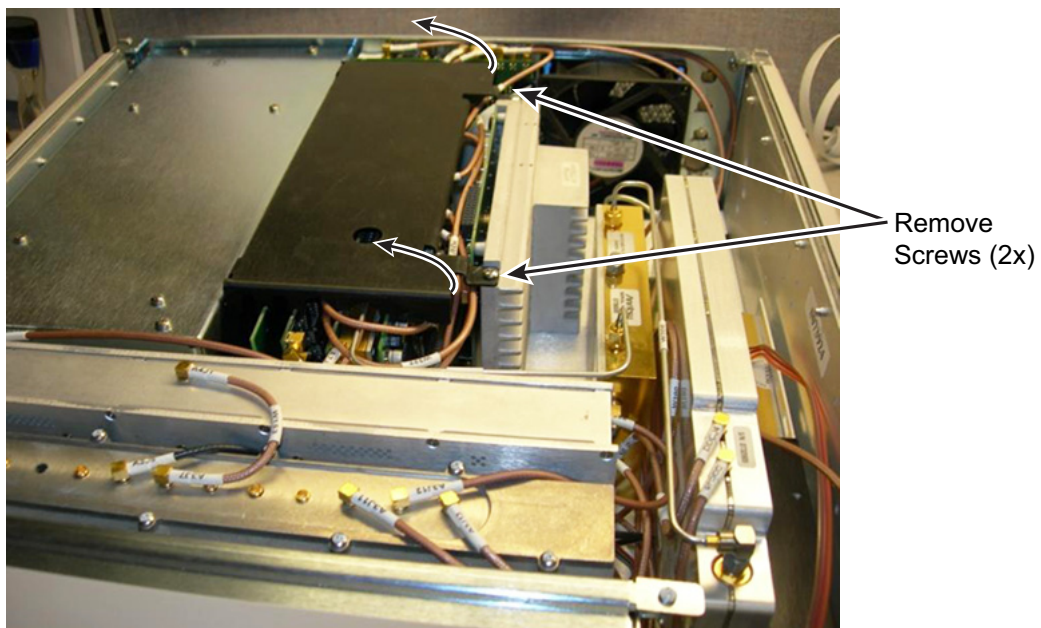

Figure 7-9. Card Cage Cover Removal
1. Use a Phillips screwdriver to remove the two screws that secure the card cage cover (Figure 7-9).
3. After ensuring the cover is properly installed, insert and tighten the two PCB cover screws (Figure 7-9 on page 7-17).